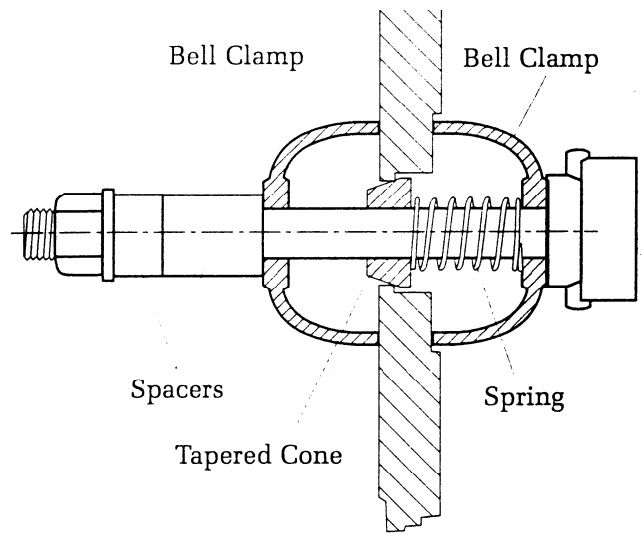
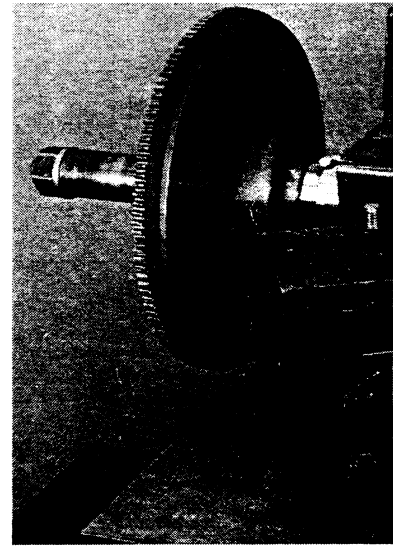

Figure 50
Figure 51
1. Mount the flywheel on the 1" arbor (Figure 50). It may be necessary to use a smaller optional centering cone if the pilot bore is smaller than 1.7". If the pilot bore of the flywheel is smaller than will fit on the 1" arbor, it will be necessary to use the optional Small Hole Flywheel Kit, part no. VNE868208.
2. Using the handwheel for the drum slide, move the slides to the position closest to the workpiece, then back it off three (3) or four (4) turns. Using the handwheel for the disc slide, turn in toward the body of the lathe as far as possible, then back it off three (3) or four (4) turns.
3. Position the drum tool bar and mounting cradle on the mounting surface with the tool bar and cradle facing the workpiece (Figure 51). Select the preferred mounting hole that will allow the tool bar to reach the innermost surface to be machined while being mounted at approximately a 45° angle to the contact surface.
4. Install the threaded stud, mounting cradle, tool bar, and top plate. Secure using the flange nut provided. Move the tool bar to the innermost contact surface and tighten the nut on the cradle assembly (Figure 51).